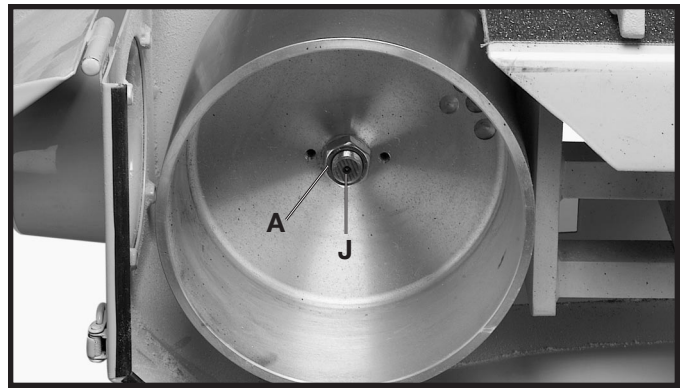

Fig. 59
2. Remove nut (A) and washer from the shaft (J) Fig. 59.